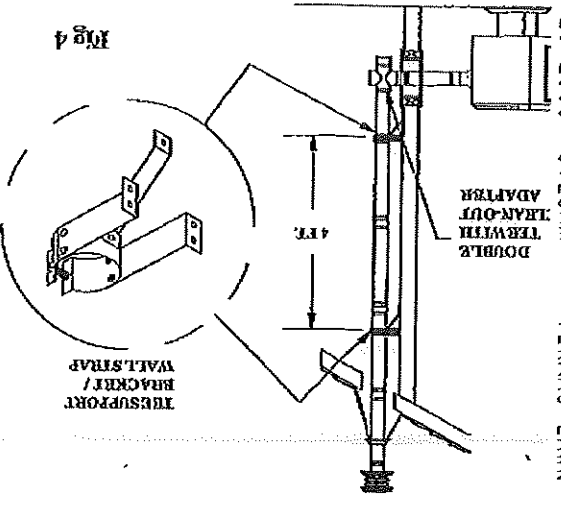

Fig 4
**4.** If the flue exit is on the back of stove, and an exterior vertical installation is desired (Figure 4):